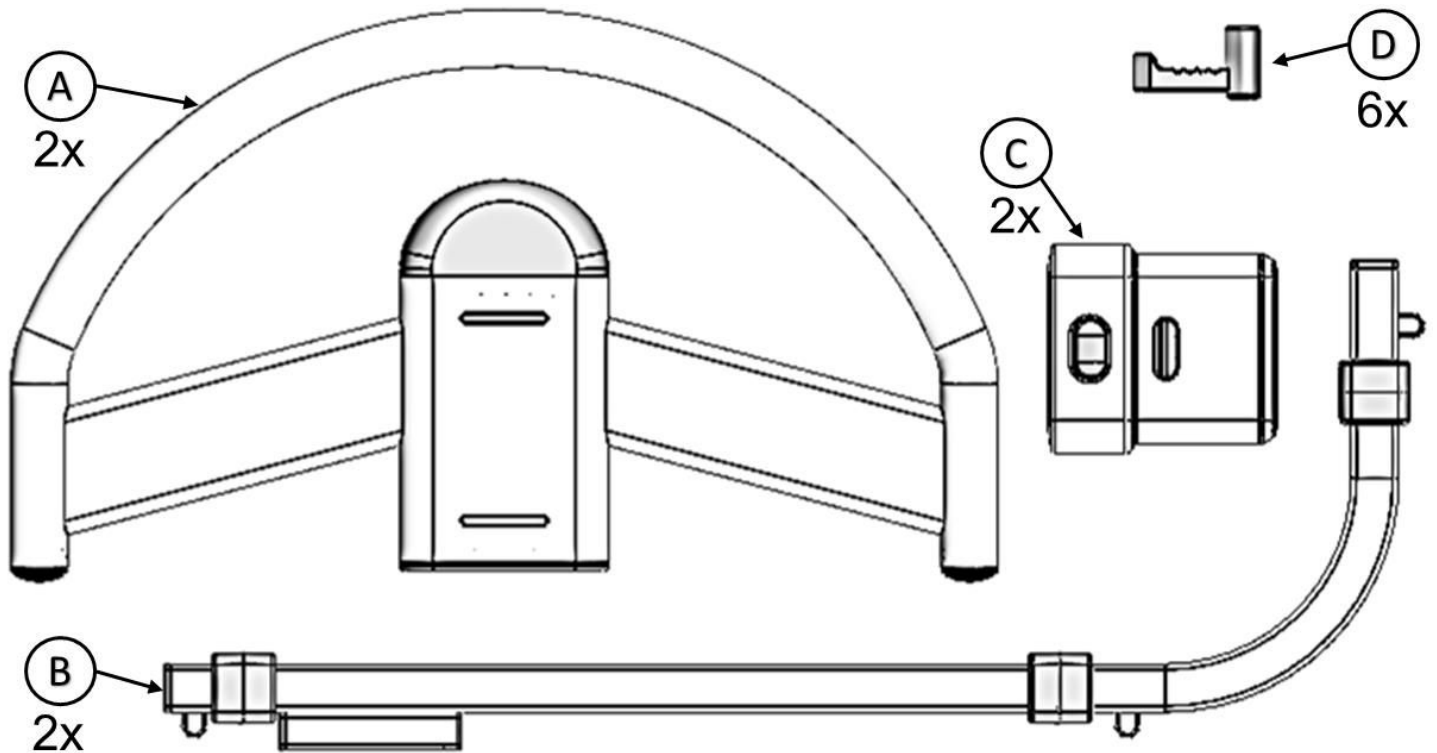

FIGURE 1
1. Remove product from box and identify all parts as shown in *FIGURE 1*.